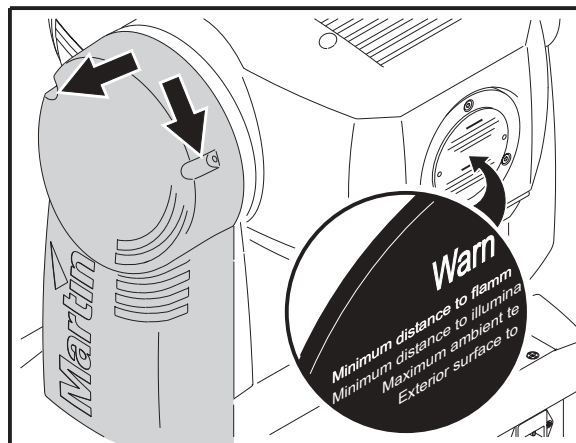

Figure 16: Identifying and removing the left-hand yoke cover
2. Remove the left-side yoke cover (when looking at the head from the back with the text the correct way up as in Figure 16) to access the PCB.
2. Remove the left-side yoke cover (see Figure 16) to access the PCB.